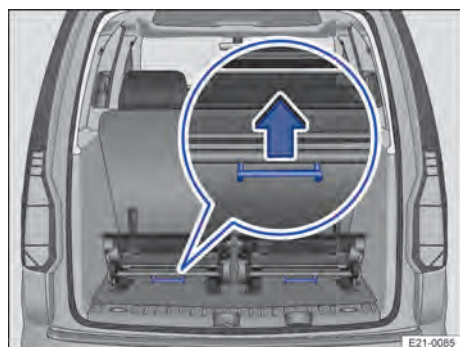

Fig. 73 Third row of seats: Removing the seats.
2. Pull the lever underneath the seat upwards → Fig. 73 (close-up) to release the seat.